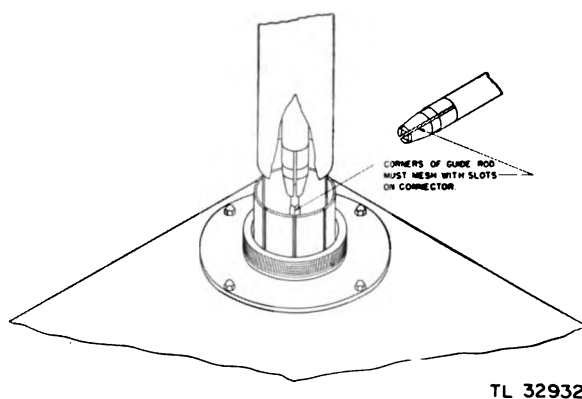

Figure 8a. Main mast console socket.
c. Next, unpack the antenna export crate No. 4, and the tent and ladder export crate No. 5. Remove the main mast of the antenna from the tent and ladder crate, and insert this in the top of the console, as follows: Remove the protecting cover from the top of the console. Note that the inner conductor coming up through the console is square. When inserting the main antenna mast into the console, this square conductor must fit into the square hole on the inside of the inner conductor of the antenna mast. See figure 8A. While one man holds the antenna mast over the console, another should examine the square shaft coming up through the console and align it with the inside of the inner conductor of the mast. These two slip together easily when they are aligned. Slide the mast down into the console as far as it will go, and align the tongue on the mast with the groove in the piece which is fastened to the console. Place the clamp around the mast and tighten it. Be sure that the clamp is near the end of the fingers of the antenna mast.